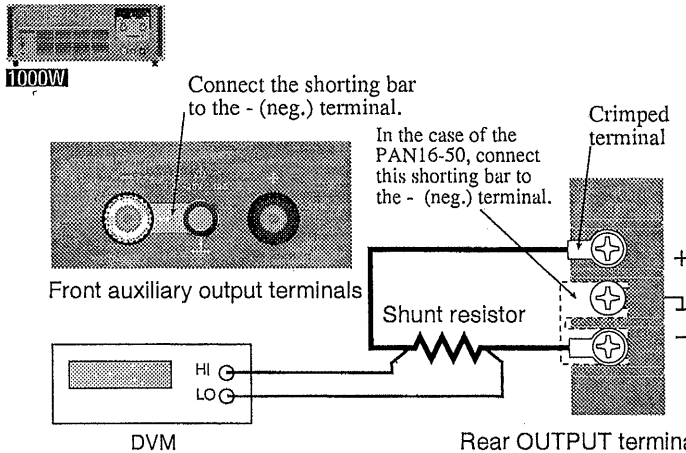

Fig. 5-3B Connection for current system calibration (model 1000W)
- For the model 1000W user, see Fig. 5-3B.
- ④ Connect the - (neg.) terminal and the chassis ground terminal ( $\perp$ ) with the shorting bar.